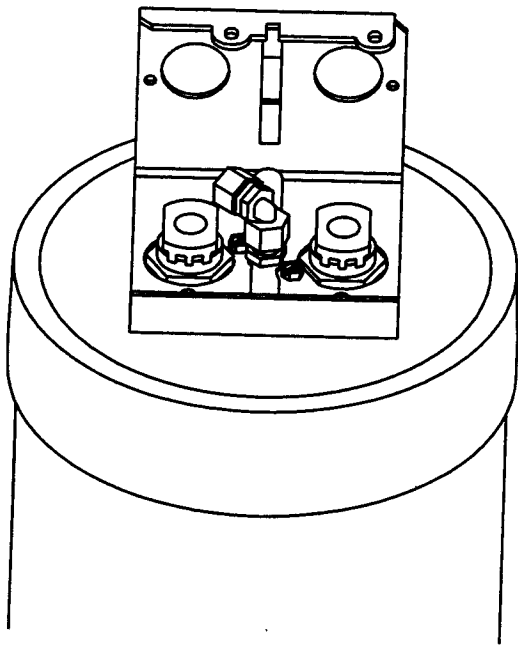

FIG. 8
- Find the 1/4" NPT x 3/8" plastic elbow in the parts pack. Place it on the end of the nipple and position the elbow as shown in Fig. 8.